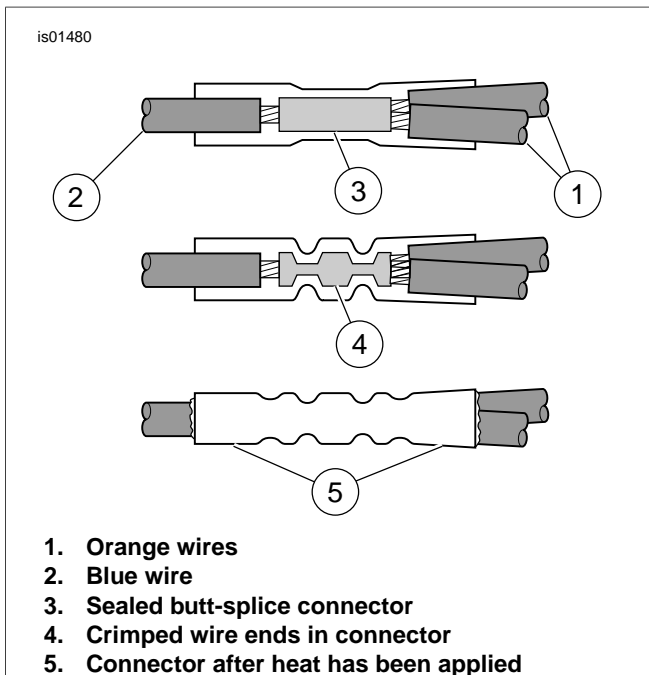

Figure 2. Installing Sealed Butt Connectors
- e. See Figure 2. Insert the ends of both orange wires (1) and the blue wire (2) from the stop lamp relay into the sealed butt-splice connector (3) from the kit.
- g. See Figure 2. Using the UltraTorch UT-100 (H-D 39969), Robinair Heat Gun (H-D 25070) with Heat-shrink Attachment (H-D 41183), or other suitable radiant heating device, heat the crimped splice to